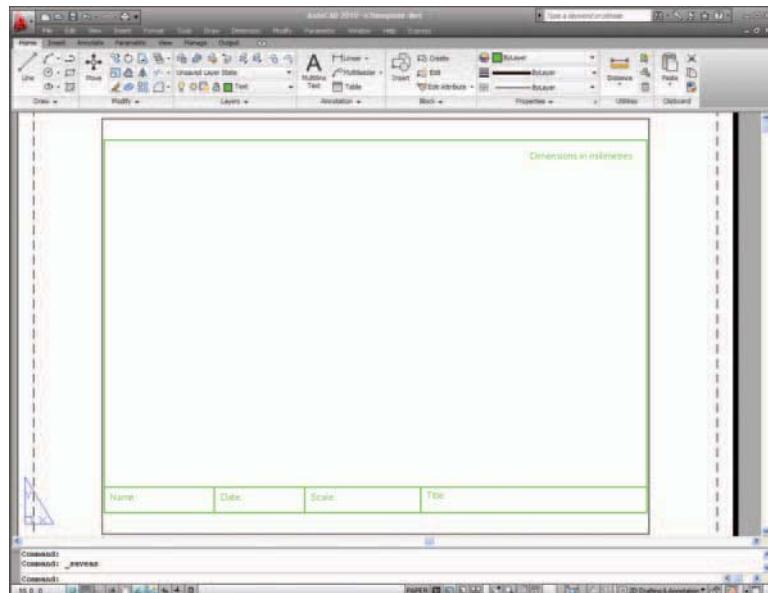

Fig. 4.24 The A3_template.dwt
4. It is suggested this template be saved as a **Paper Space** template with the name **A3_template.dwt** (Fig. 4.24).